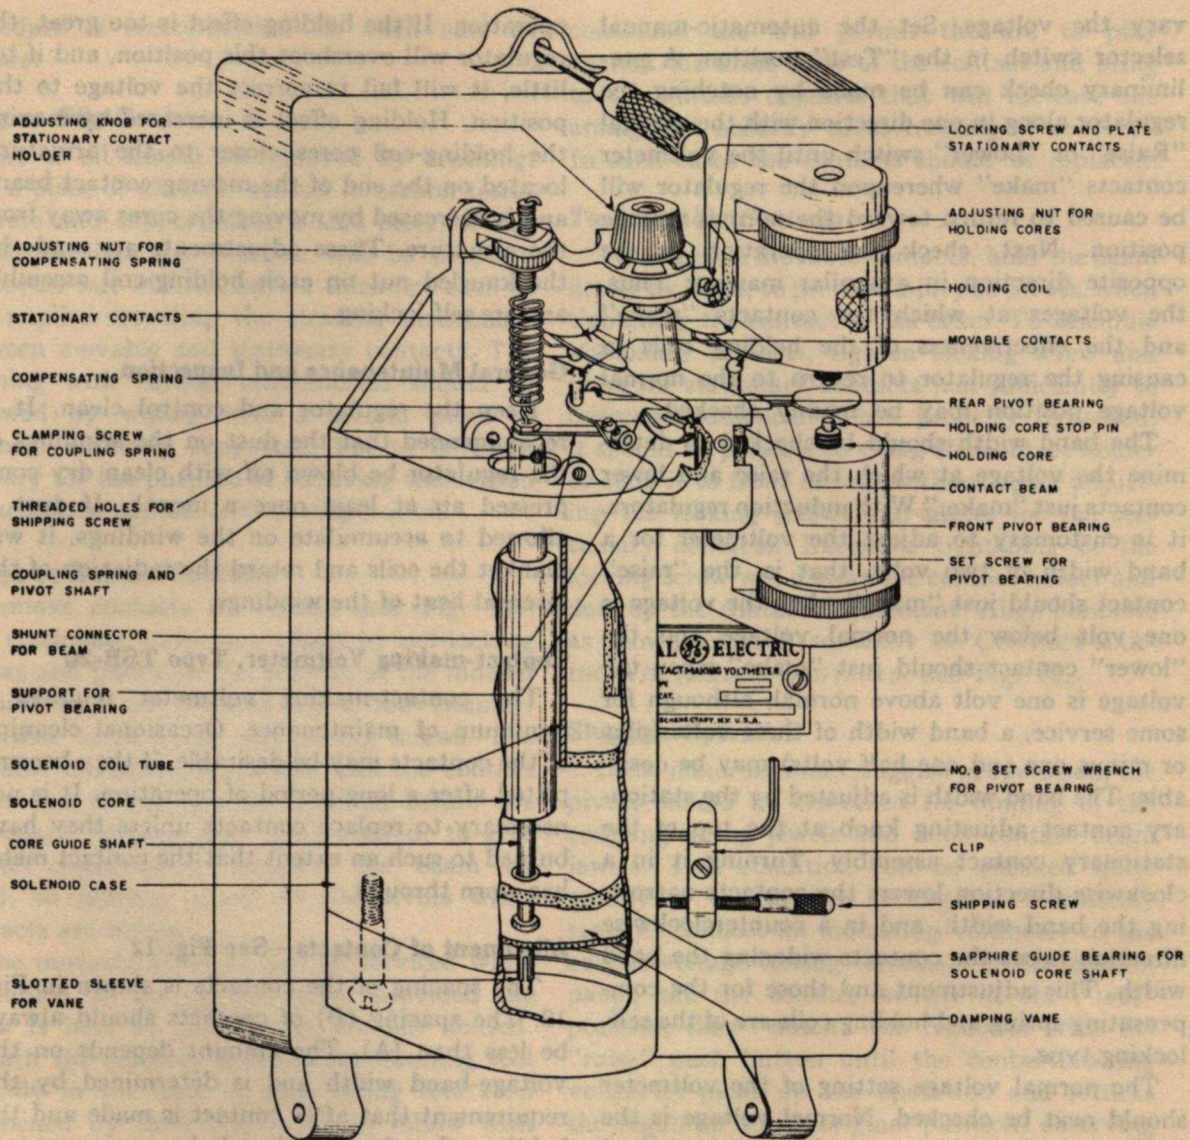
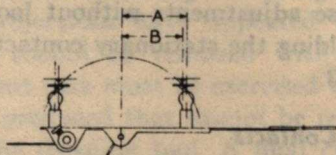

Fig. 13. Sectionalized view of Type TSB-20 contact-making voltmeter
Fig. 12. Alignment of contact-making-voltmeter contacts
#### **Alignment of Contacts—See Fig. 12**
The spacing of these contacts is shown in Fig. 12. The (B) spacing should always be less than (A). The amount depends upon the voltage-band width and is determined by the requirement that after contact is made and the holding effect has developed the necessary contact pressure, the contact centers will then coincide. The stationary contacts can be adjusted to obtain this condition by moving these contacts slightly to the left or right, by means of the extensions provided on the contact holders. It should be possible to make these adjustments without loosening the screws that hold these stationary contacts into the contact assembly.
#### **Adjustment of Contact-making Voltmeter— See Fig. 13**
#### Alignment of Contacts—See Fig. 12
The spacing of the contacts is shown in Fig. 12. The spacing (B) of contacts should always be less than (A). The amount depends on the voltage-band width and is determined by the requirement that after contact is made and the holding effect has developed the necessary contact pressure the contact centers will then coincide. The stationary contacts can be adjusted to obtain this condition by moving these contacts by means of the extensions provided on the contact holders. It should be possible to make these adjustments without loosening the screws holding the stationary contacts in place: See Fig. 13.
Remove contacts as follows (see Fig. 13): The stationary contacts are held by self-locking screws and plates in the pockets of the molded support and are released by a few counter-clockwise turns of the self-locking screws. The movable contacts are screwed into the contact beam and should not be removed before the stationary contacts are first removed, to give greater accessibility. Support the beam by hand, to prevent injury to the pivots when contacts are turned.
To assemble movable contacts, hold the beam firmly by hand, to prevent injury to pivots, when tightening the contact in the beam. To assemble stationary contacts, tighten locking screw and plate for stationary contacts just sufficiently to overcome looseness. When properly tightened, it should be possible to swing the contact holder or slide it to front or rear without again adjusting the locking screws and plates for the stationary contacts. Excessive tightening of the locking screw will distort the contact holder and destroy the contact adjustment. Align contacts as shown under ALIGNMENT OF CONTACT-MAKING VOLTMETER CONTACTS. See Fig. 12.
If the meter becomes sluggish in operation, the pivots should be examined for binding of the coupling-spring jewels and main contact beam jewels. This condition can be checked quite readily if the applied voltage is reasonably steady. Connect an indicating voltmeter to the output-voltage testing terminals on the control panel, set the selector switch in the "test" position, then "notch" the regulator with the "raise" push button until the contact-making voltmeter picks up the operation and returns the regulator to its original position, observing very carefully the voltage on the indicating voltmeter at which the contact-making voltmeter picks up the operation each time. Repeat, using the "lower" push button. The observed values should be consistently within 0.1 volt, plus or minus, and if successive trials exceed the total (0.2 volt), friction is probably present. The binding may be caused by too much pressure on the beam pivots. This necessitates the removal of the contact beam as follows. See Fig. 13.